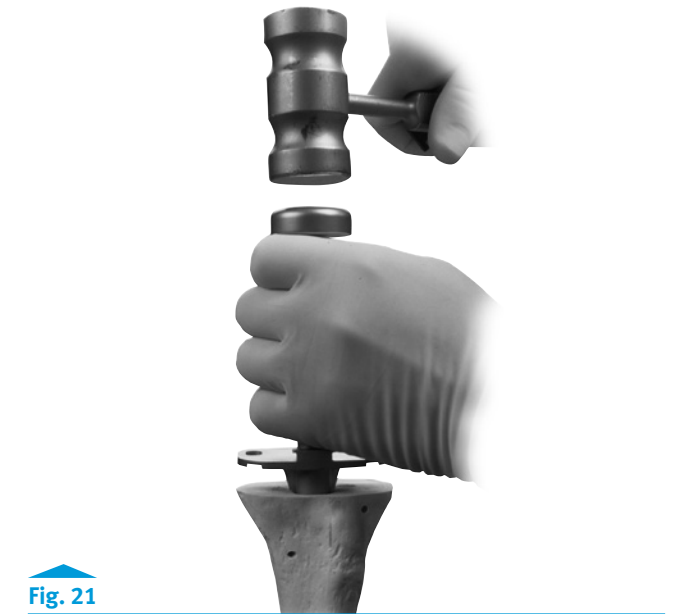

Fig. 21
- Insert the final provisional assembly into the tibia, and impact it with the Tibial Provisional Impactor (Fig. 21).